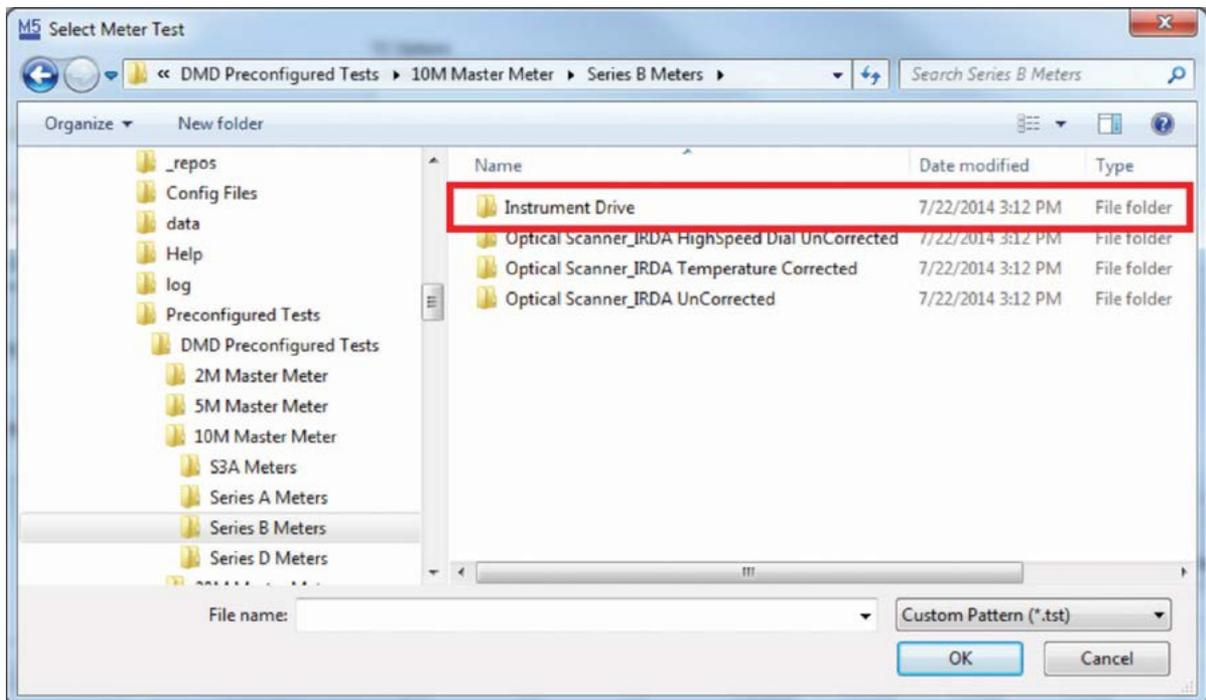

Figure 98: Test Control Mode Selection
5. Within the Meter Family Selection, the next selection regards Test Control Mode. Test Control Mode refers to what equipment will be used to test the meter. Refer to **Figure 98**. For the purposes of this example, “Instrument Drive” has been selected.